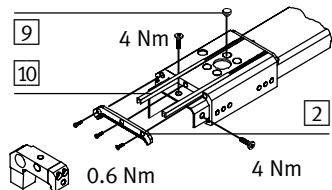

Fig. 9
- Fit the brush wiper **2** (tightening torque see Fig. 9).